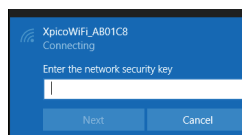

Figure 16: Network Security Password
4. After clicking Connect, enter “xpiconwifi” in lower case as the network security password. Click on Next button to complete the connection. See Figure 16.